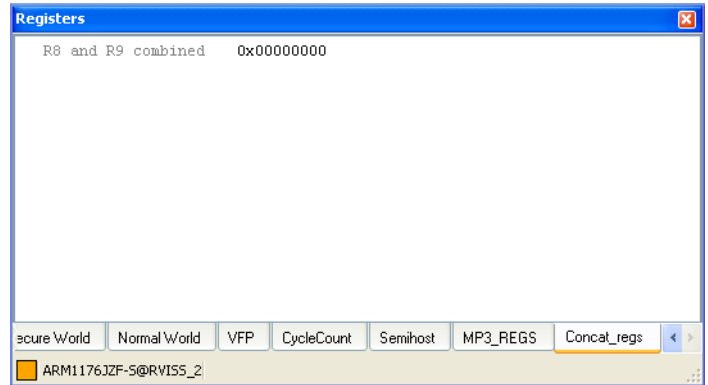

Figure 4-34 Concat_reg tab in Registers view
2. Select **View** → **Registers** from the Code window main menu to open the Registers view. Figure 4-34 shows an example: